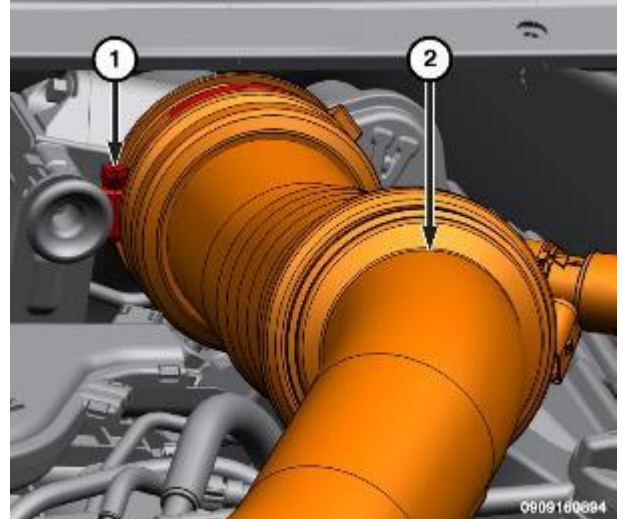

Figure 178 – Clean Air Hose at Turbo
- 12. Loosen clean air hose clamp (1) and remove the clean air hose from the turbocharger elbow (Figure 178).